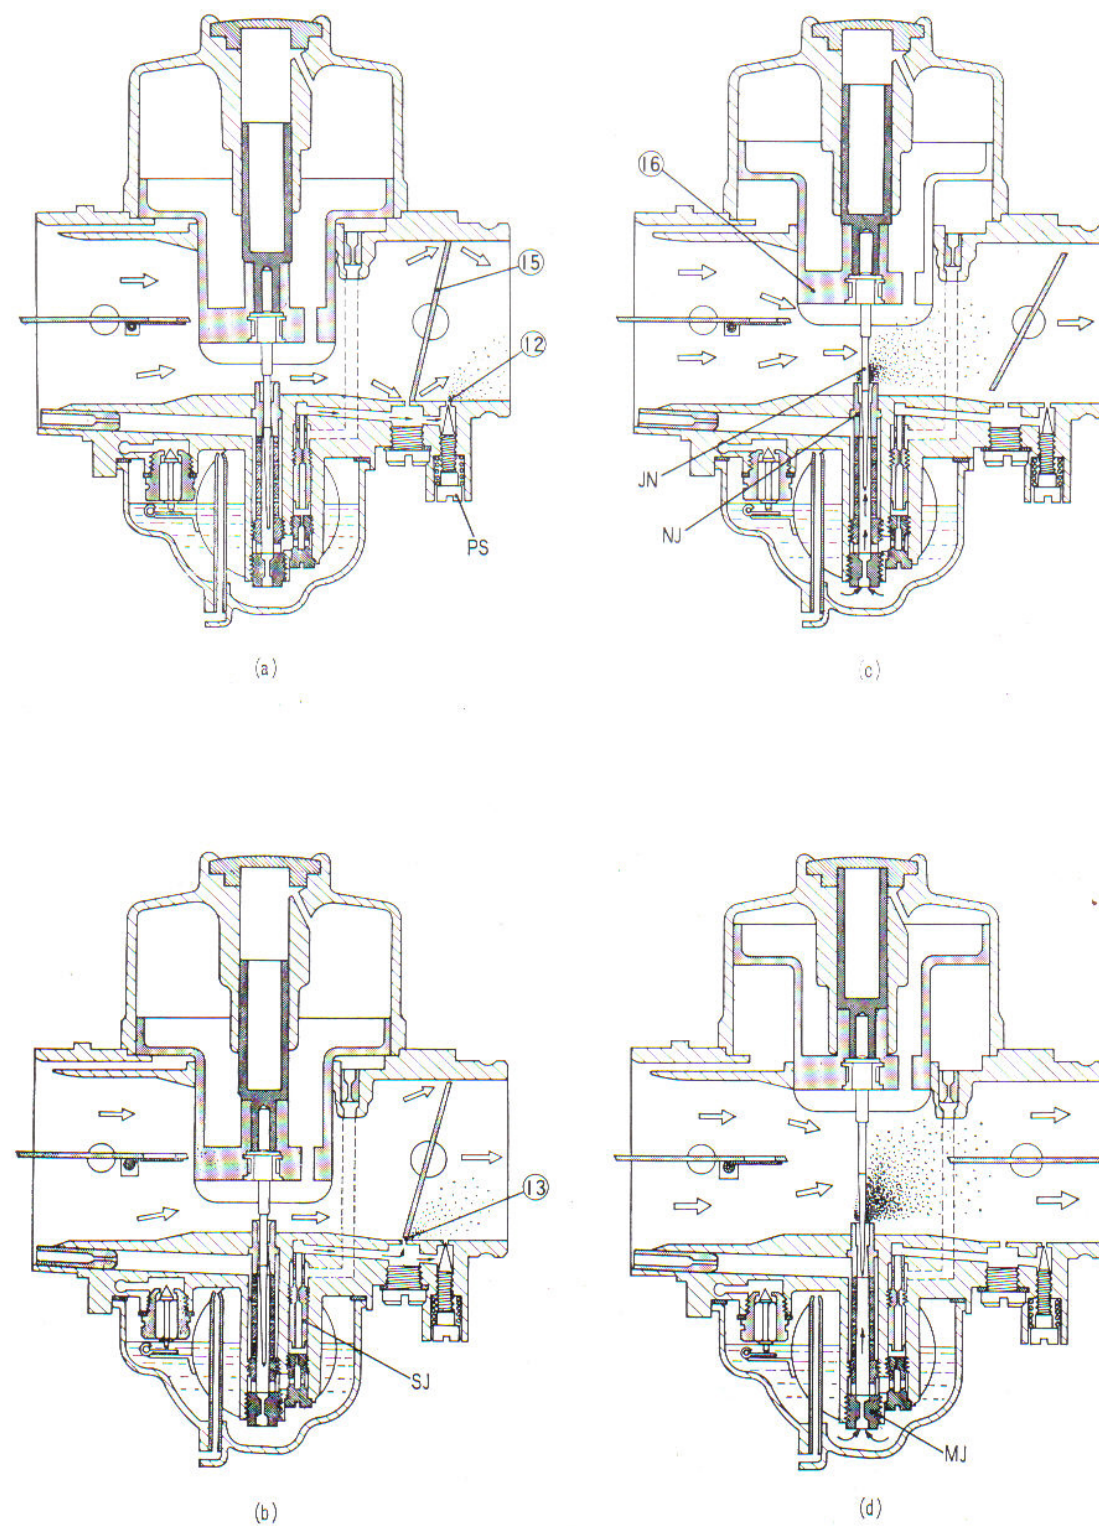

Fig. 3.131 Individual operating condition of the carburetor at the individual speeds a through d
1. Idling (Fig. 3.131)
2. Low and Cruising Speeds. (Fig. 3.131-b)
3. Medium Speed (Fig. 3.131-c)
4. High Speed. (Fig. 3.131-d)